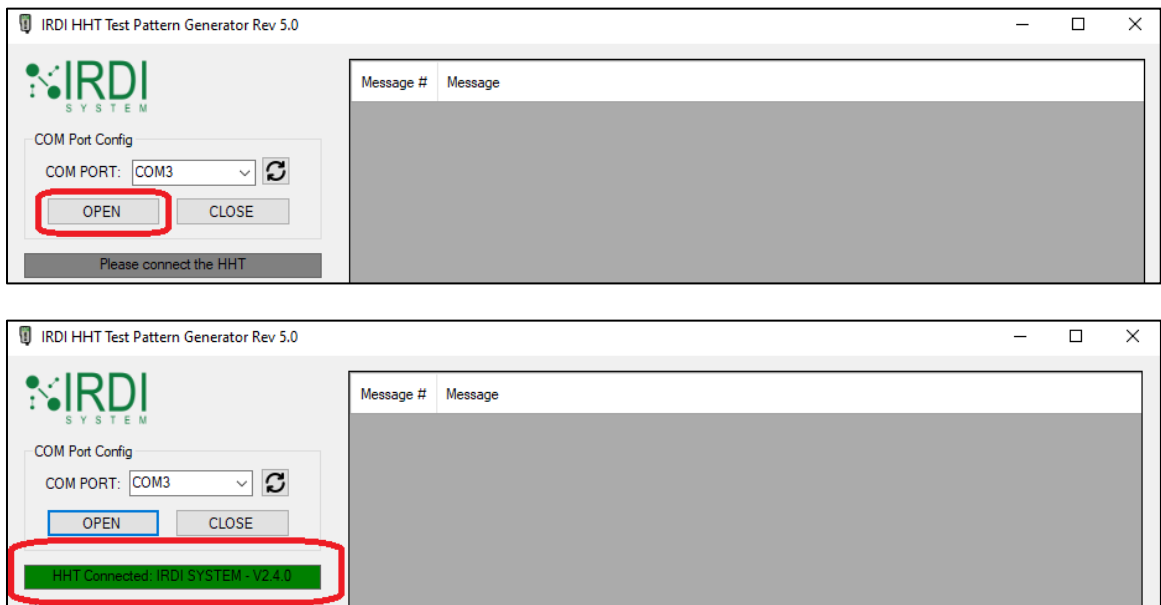

FIGURE 6-3 COMMUNICATION PORT OPENED
STEP 5	<p>Click on the “OPEN” button under the “COM PORT”, to open the port and start communicating with the HHT.</p> <p>If the port opens successfully, the screen will appear as shown in Figure 6-3, with the “HHT Connected...” message shown in green.</p>